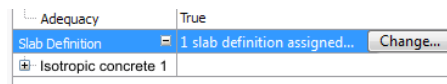
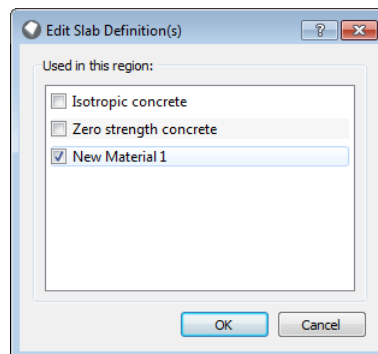

Figure 15.3: Displaying the 'Change' button in the Property Editor
Figure 15.4: Edit Structural Object(s) dialog box
**Change dialog** Select the required Geometry Object. In the **Property Editor** click on the right hand box in the row **Slab definitions(s)** to display the *Change* button (see Figure 15.3). Click this to display the **Edit Object Structural Properties** dialog (see Figure 15.4). Check or uncheck the relevant boxes to include or remove slab definitions from the object.